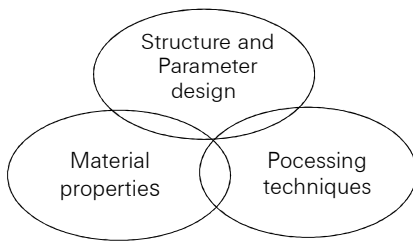

Fig. 3 Key points for development of micro drill bits
The development of a micro drill bit requires attention to three key factors: material properties, structure and parameters design and the processing techniques for the micro drill bit, as shown in Figure 3. The material requirements for ultra-small micro drill bits are very strict. Generally, materials for ultra-small micro drill bits should have the following characteristics: fine tungsten carbide (WC) grain size; high hardness with superior wear resistance capability and high strength with a good anti-breakage capability. Of course, it is somehow difficult to achieve the most favourable values of grain size, hardness and strength simultaneously. The most important